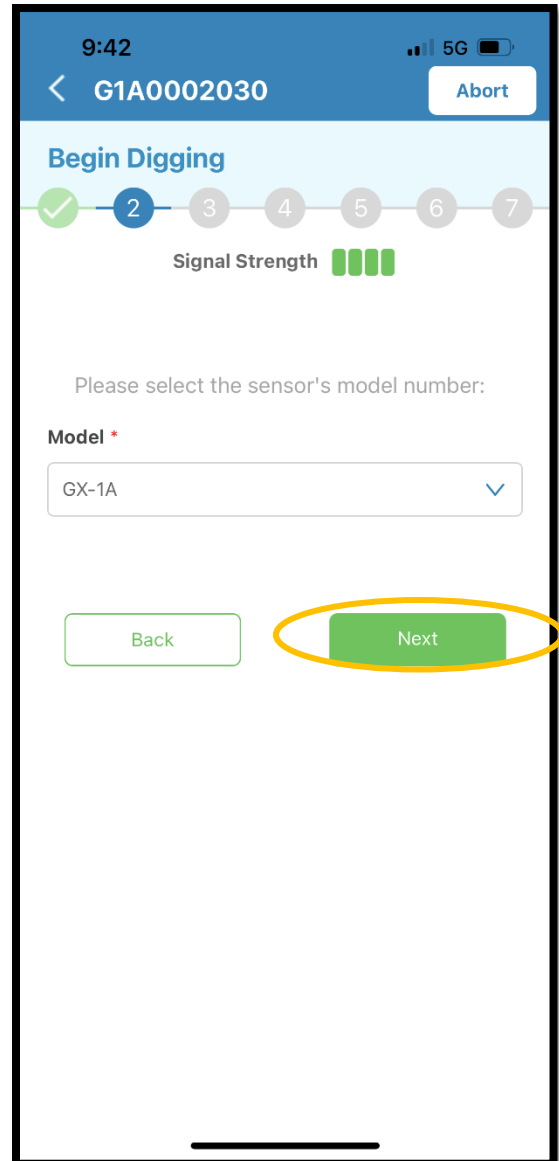

Figure 14
- h. On the next Provisioning screen, ensure that GX-1A is the selected model and tap the Next button. (Figure 14)